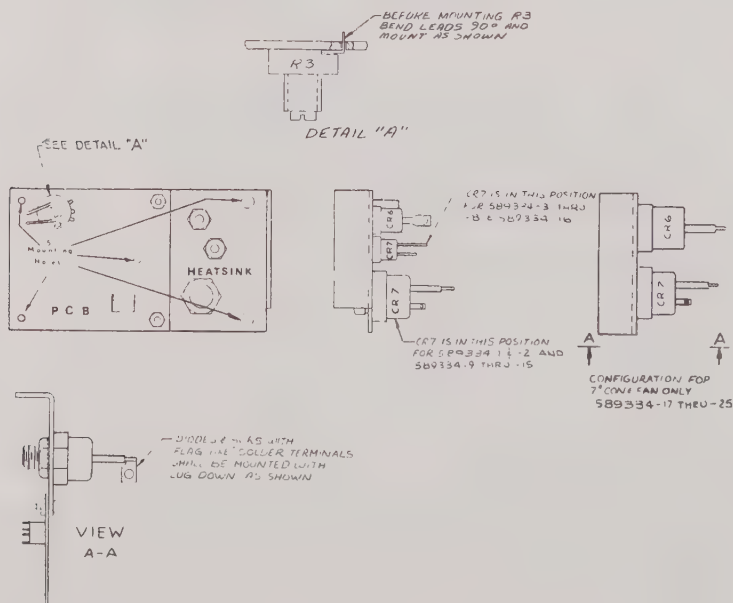

Figure 7-1
Figure 7-1 defines the physical characteristics of the module, and Figure 7-2 details the component layout of the printed-circuit board (PCB), including a schematic diagram of the system. Tables 7-1/-2/-3 list replaceable OVP parts.
8. Turn the OVP potentiometer (R3, Figure 7-1) fully clockwise.